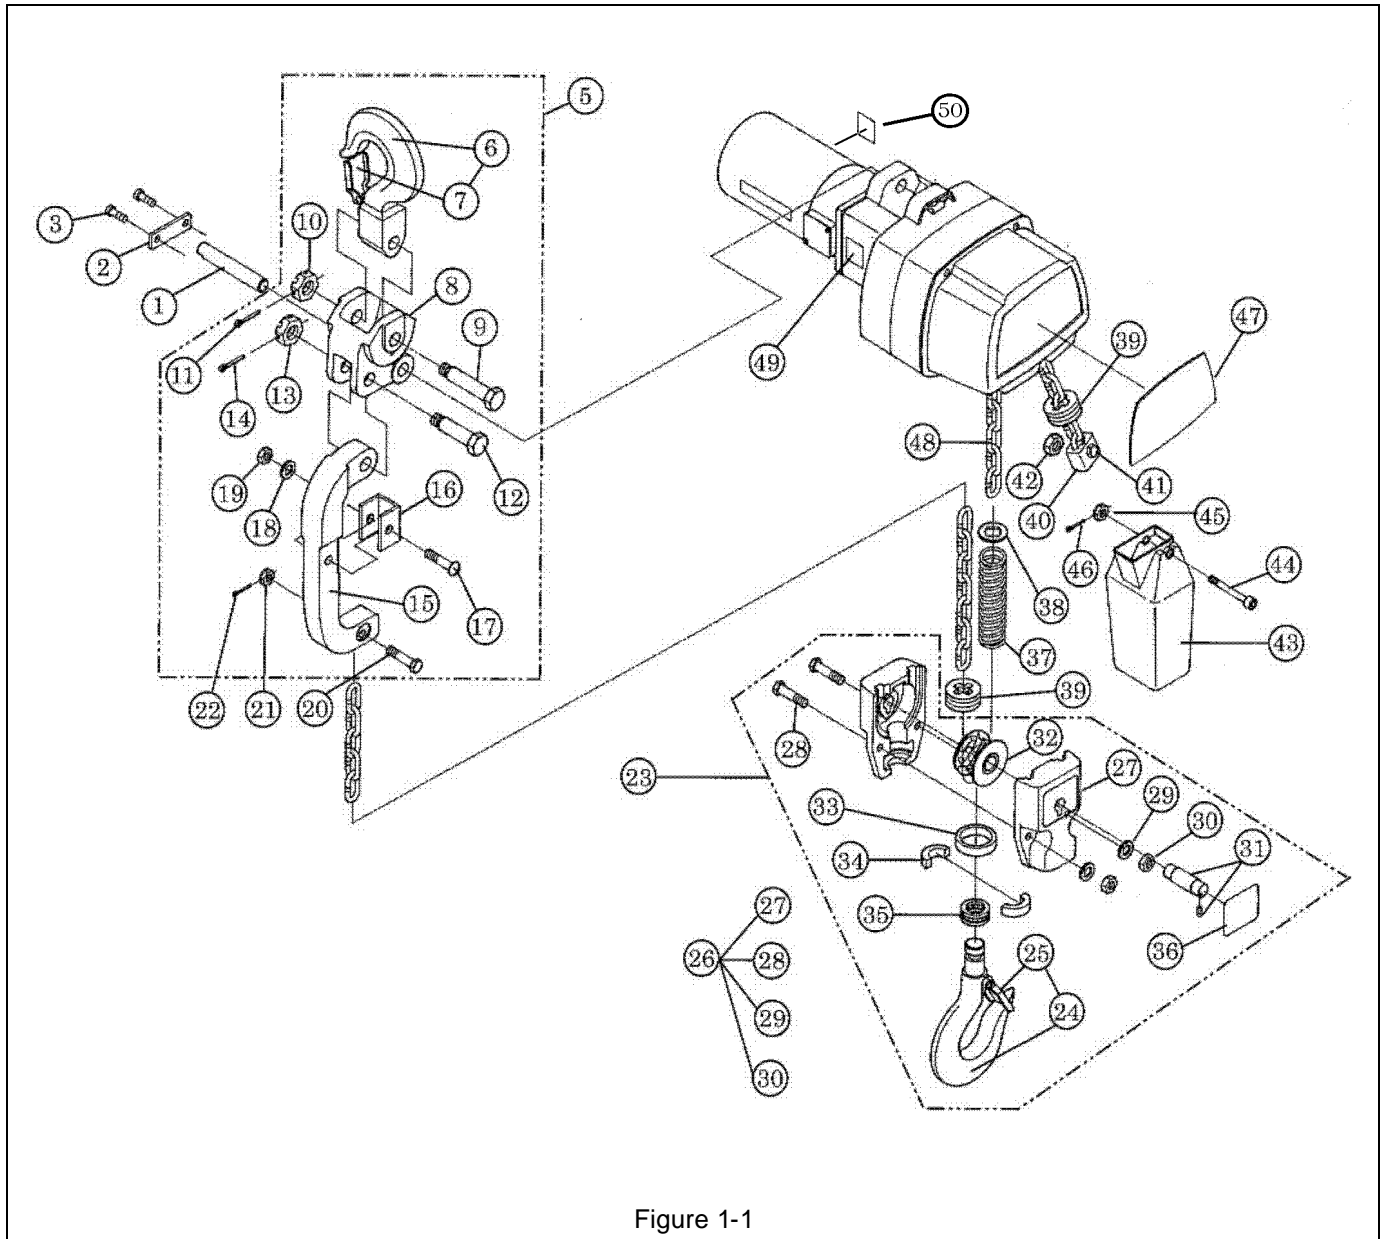

Figure 1-1
- 2.6 Attach Nameplate B (Figure 47) to hoist as shown in Figure 1-1.
- 2.7 Attach the Warning Seal E label, Figure 49, to hoist as shown in Figure 1-1.
- 2.8 Attach Nameplate M, Figure 50, to hoist as shown in Figure 1-1.